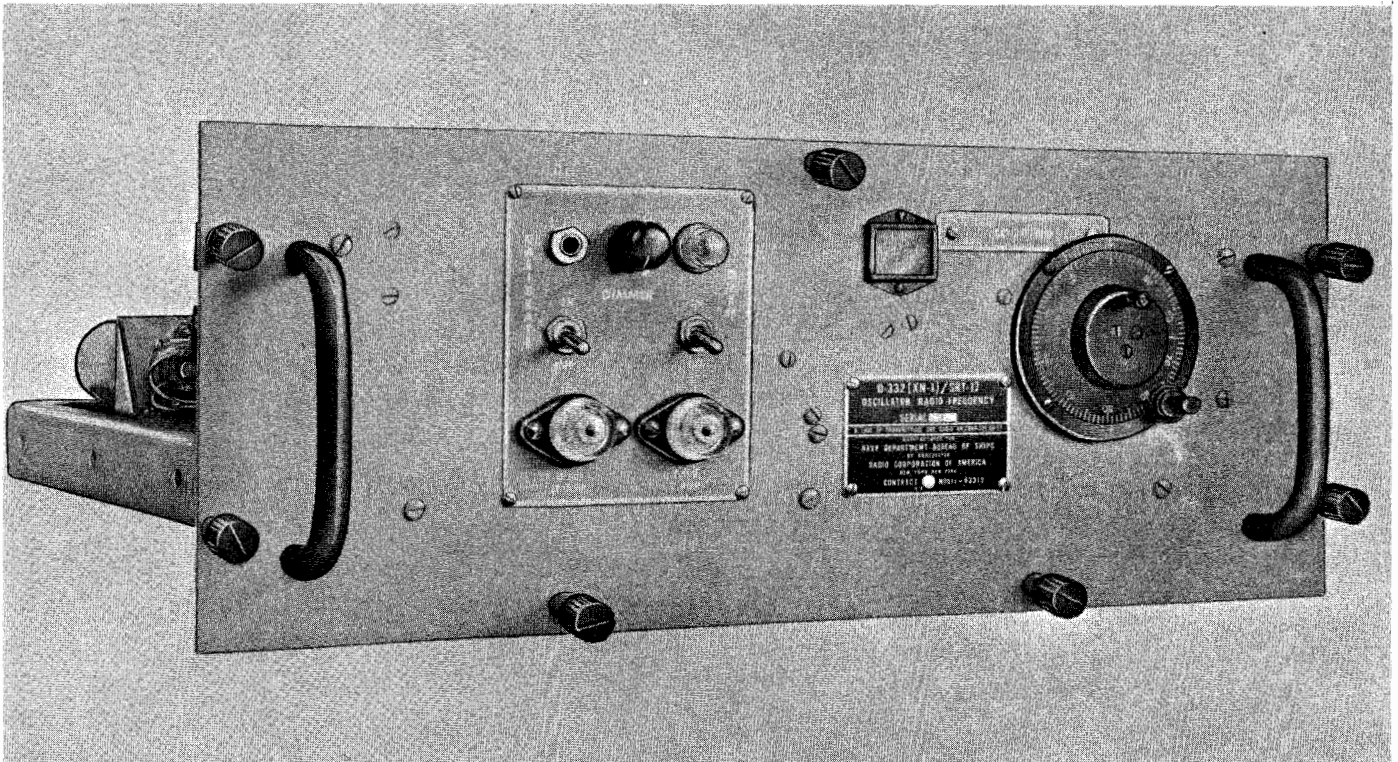

Figure 1-3. Radio Frequency Oscillator 0-332(XN-1)/SRT-17
b. RADIO FREQUENCY OSCILLATOR 0-332(XN-1)/SRT-17 (see figure 1-3).